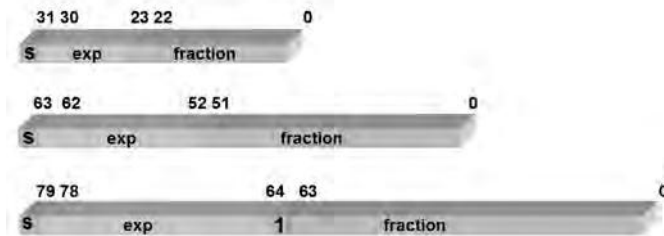

Fig. 7.49 Floating-point number supported by 8087
- Temporary (80 bits) : extended precision, with a bias of 3FFFH and Fig. 7.49 shows the floating point number supported by 8087